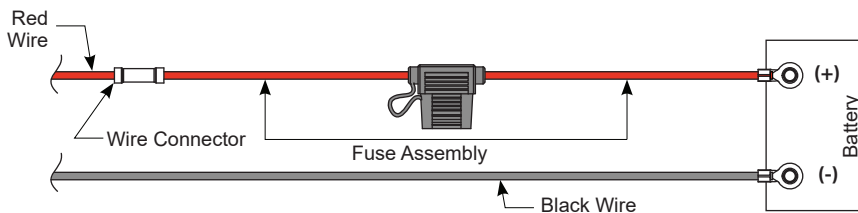

Figure 8
3. Insert one end of the fuse assembly wire into a wire connector (included) and crimp. Insert the red power cord wire into the other end of the wire connector and crimp. Make sure the fuse assembly is positioned outside of hazardous areas and as close to the battery as possible (see Figure 8).
5. Connect the red wire/fuse assembly to the positive side of the battery (see Figure 8).